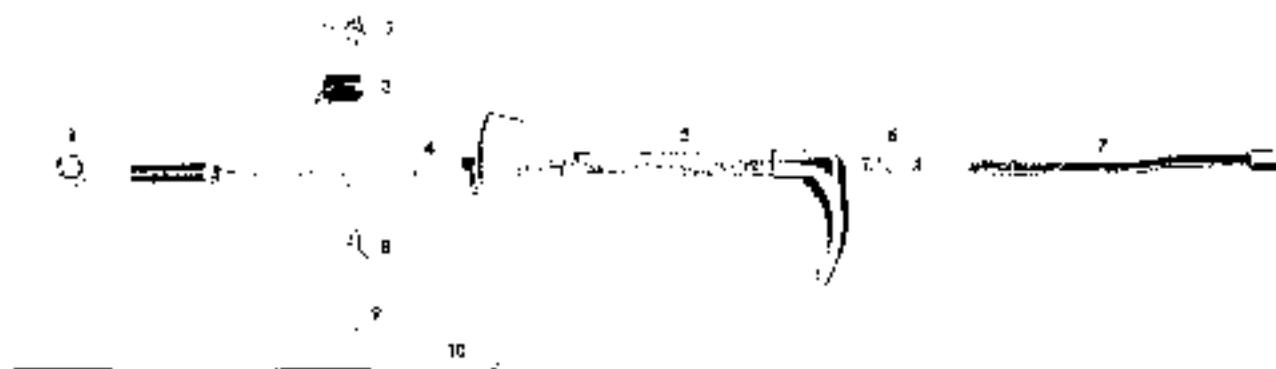

FIG. 374
File off the upset end of the rivet. Removal of the rivet (9, Fig. 374) then allows the removal of the plunger stop (8), latch spring (7), and catch (3). Withdraw the handle and plunger assembly and cable from the catch and handle guide assembly (4). Unhook the cable (10) from the plunger (5). Press the trigger release rod (7) slipping the end of the rod from the notch in the lower end of the plunger and remove the release rod and spring (6) from the handle.
Install the spring (6, Fig. 374) on the release rod (7) and install the rod in the handle (5) placing the notch of the release rod in the notch in the lower end of the plunger. Attach the cable (10) to the end of the plunger. Thread the cable through the catch and guide assembly (4) and install the handle and plunger assembly. Install the catch (3), latch spring (7), and plunger stop (8); align the holes of the three parts and the hole in the plunger and install a new retaining rivet (9). Peen the end of the rivet slightly.